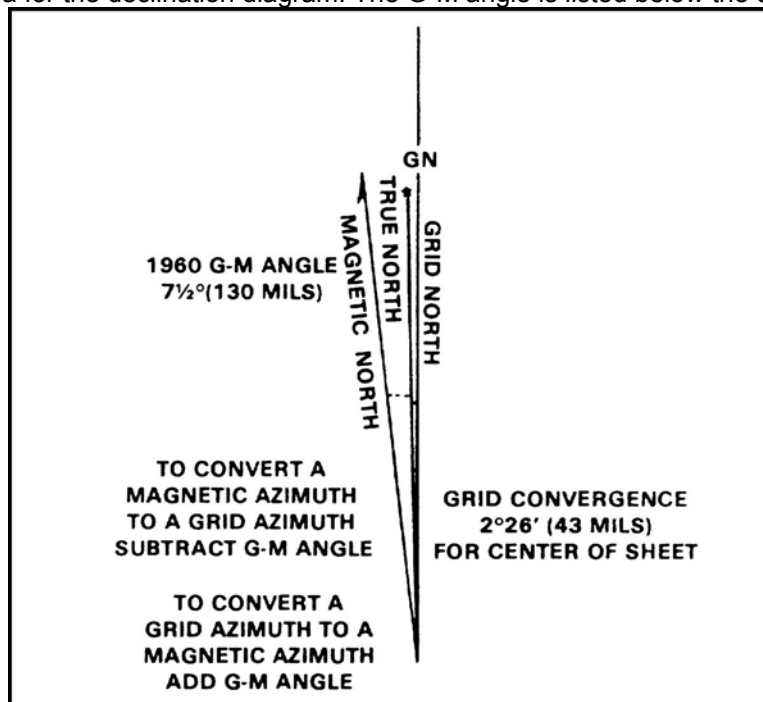

Figure 1. Westerly G-M.
- a. To determine a grid azimuth with an M2 compass, the soldier must declinate the compass. To do this, he must know the declination constant for his area of operation. To determine the declination constant, he must know the grid-magnetic (G-M) angle for the area. To find the G-M angle for the area, he looks at the bottom right-hand corner of the 1:50:000-scale military map of the area for the declination diagram. The G-M angle is listed below the date (Figure 1).
EXAMPLE: (Refer to Figure 1.) The G-M angle is 130 mils, and magnetic north is west of grid north. The value of the G-M angle is subtracted from 6400. The declination constant is 6270 mils and is indexed on the azimuth scale of the M2 compass.